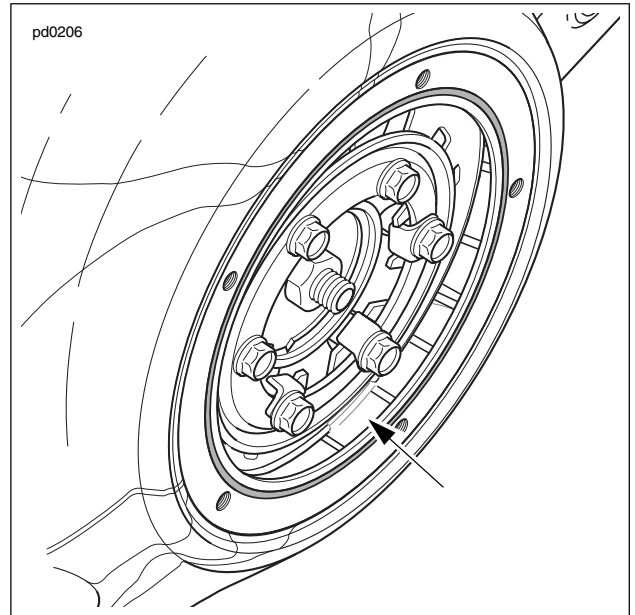

Figure 3-4. Chaincase Lubricant Level
2. See Figure 3-4. The primary chaincase lubricant level is acceptable when lubricant is visible in bottom of chaincase with motorcycle standing upright (not resting on jiffy stand).